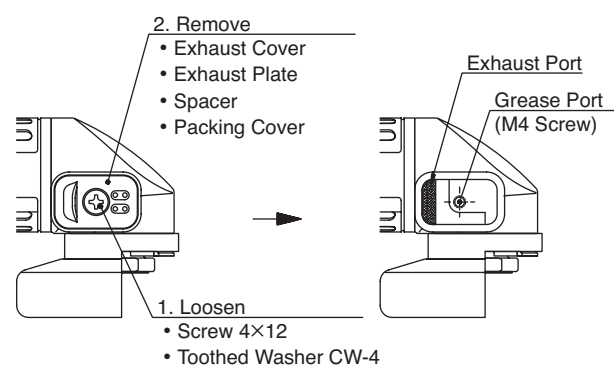

Fig. 14
4. For assembly, see Fig.14 and put back the parts in the reverse order of disassembly.